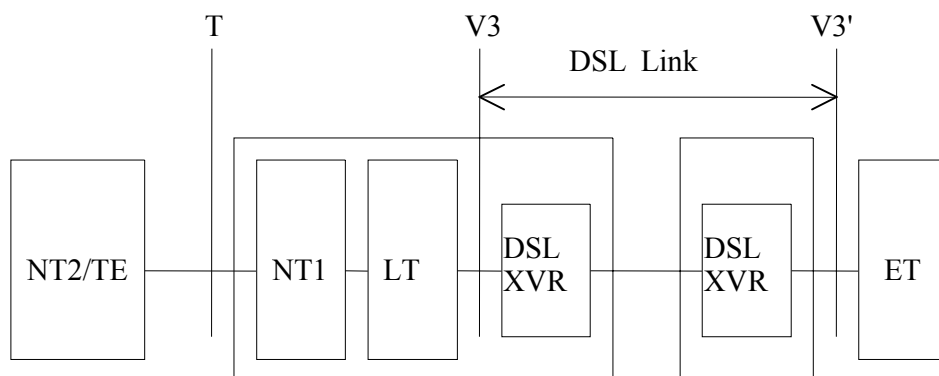

Figure 3-4: Reference Points of the PRA
- The slave modem at the customer premises is configured as NT1 & LT. Direct access to the exchange is established by a bit-transparent DSL-Link. All data, including time slot 0, from the exchange must be transmitted transparently (also time slot 0) to the PRA-NTU, therefore the DSL equipment providing the line termination is E1 working in transparent mode (see Figure 3-4).